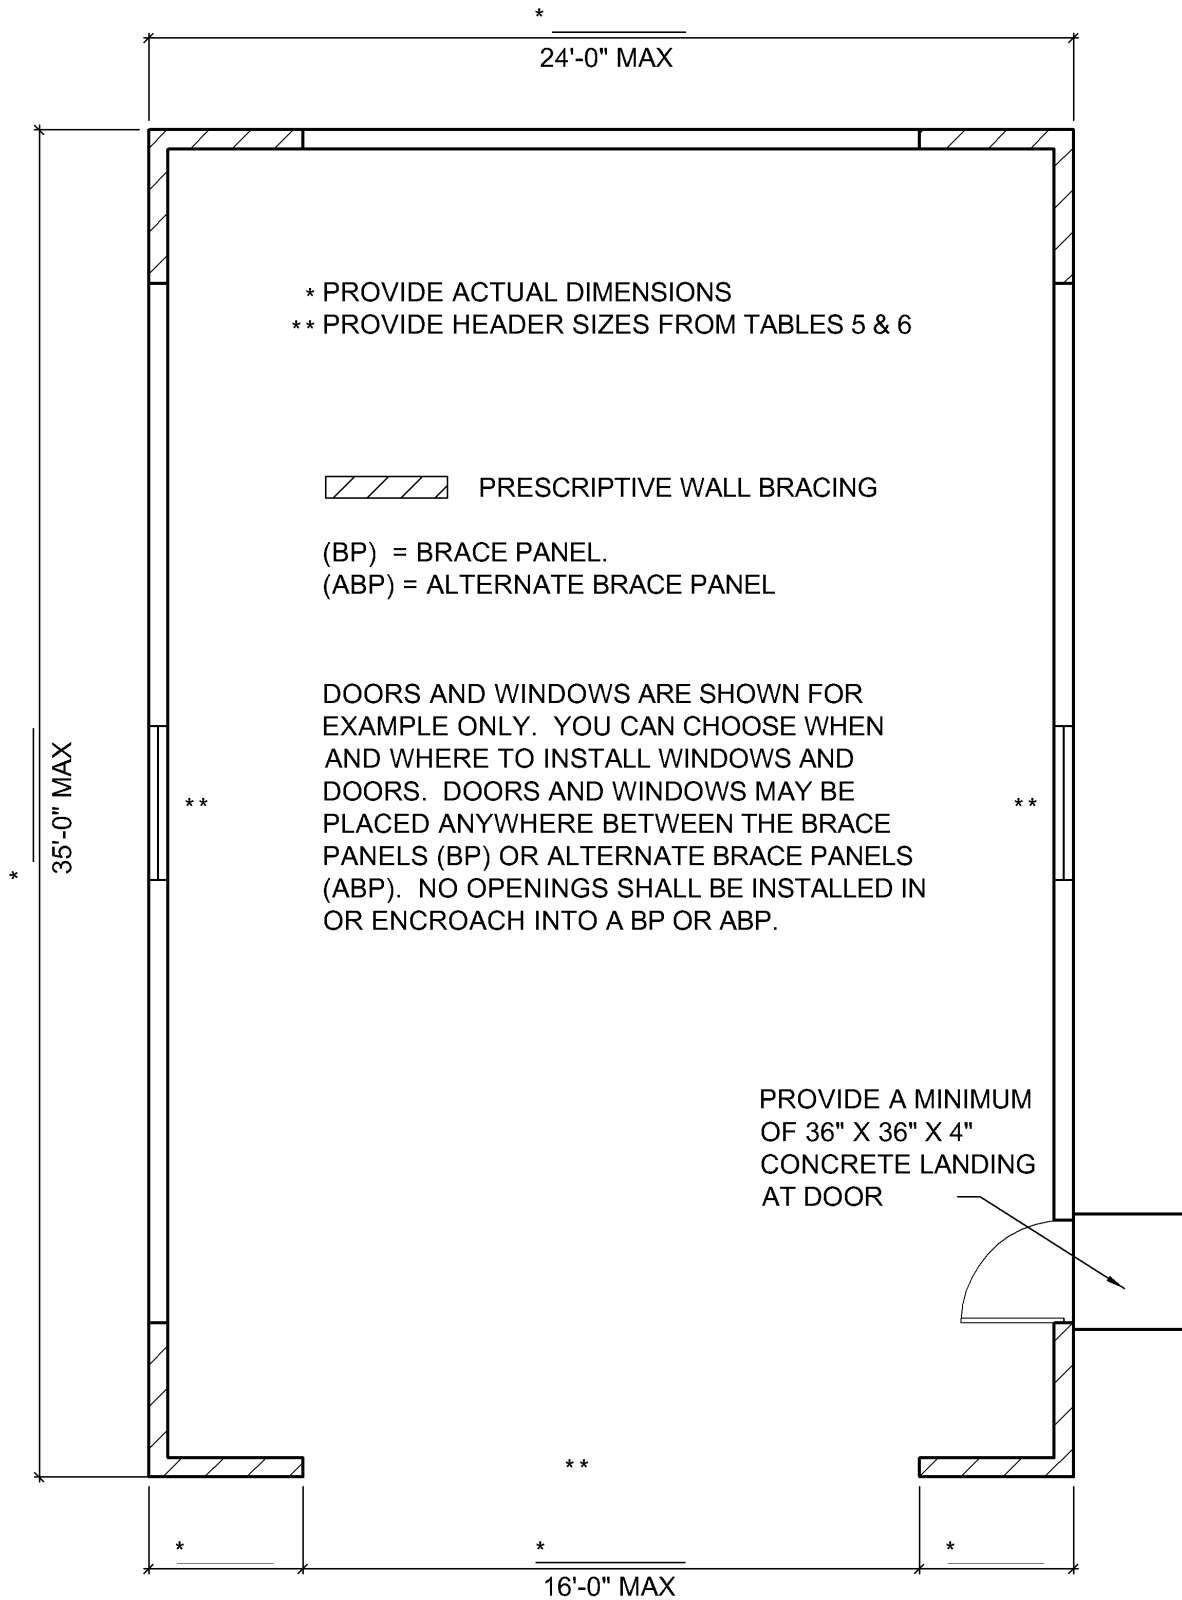

FIGURE 1
The building needs to be provided with wall (lateral) bracing at each corner and along the wall at certain points. Lateral bracing strengthens the building to resist high wind loads or earthquakes from causing it to collapse. This can be accomplished by standard brace panels (BP) or alternate brace panels (ABP). A **brace panel** is a minimum 4-foot wide plywood panel nailed to the wall at each corner and every 25 lineal feet along the wall. The BP (See *Figure 1, 6, and 7a*) is nailed to the wall studs, sole plate, and top plate with minimum 6d galvanized nails spaced not more than 6 inches apart on all edges and not more than 12 inches apart on intermediate studs, commonly referred to as "field nailing" (1-3/4 inch long, 16 gauge galvanized staples may also be used). The 4x8 or 4x10 BP panel must be attached with the long side vertically so all edges bear on a stud, sole plate, and top plate (See *Figure 7b*) for nailing at lap edge of T-1-11 panel siding). **Alternate brace panels** can be narrower than 4 feet in width (minimum 32 inches) but require additional anchorage and nailing to provide the required bracing (See *Figures 1, 6, and 8*). ABPs cannot be more than 10 feet in height. Each ABP shall be sheeted with minimum 7/16-inch panel siding, OSB, or CDX **plywood**. **The sheeting shall be nailed to the studs with 8d galvanized nails (staples are not acceptable) spaced not more than 6 inches apart on all edges and not more than 12 inches apart on intermediate studs. All edges of the sheeting must bear on the wall studs, sole plate, and top plate or be blocked. Each panel end stud shall have a tie-down device capable of providing an uplift capacity of 1,800 pounds (such as a Simpson HD2A, LSTHD8, or equivalent) installed in accordance with the manufacturer's**